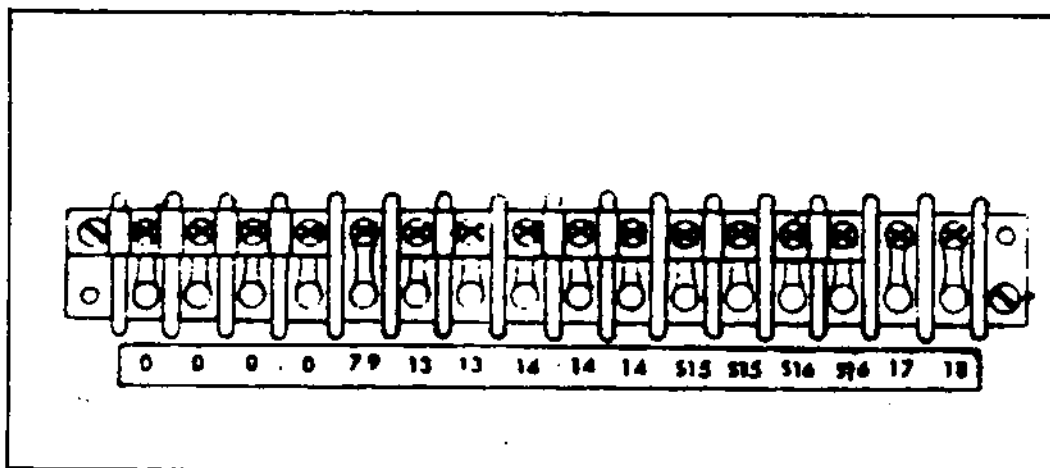

Figure 3.3-D. Terminal Strip TB4
3.3.6- TERMINAL STRIP TB5 (Figure 3.3-A, 3.3-E)